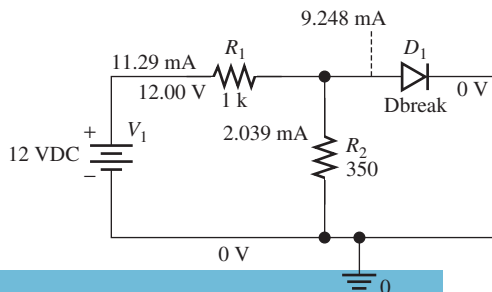

FIGURE 8.84 PSpice schematic for Example 8.30(a).
- Set up the PSpice schematic shown in Figure 8.84 and run the simulation analysis as “Bias Point” (see Figure 2.71).